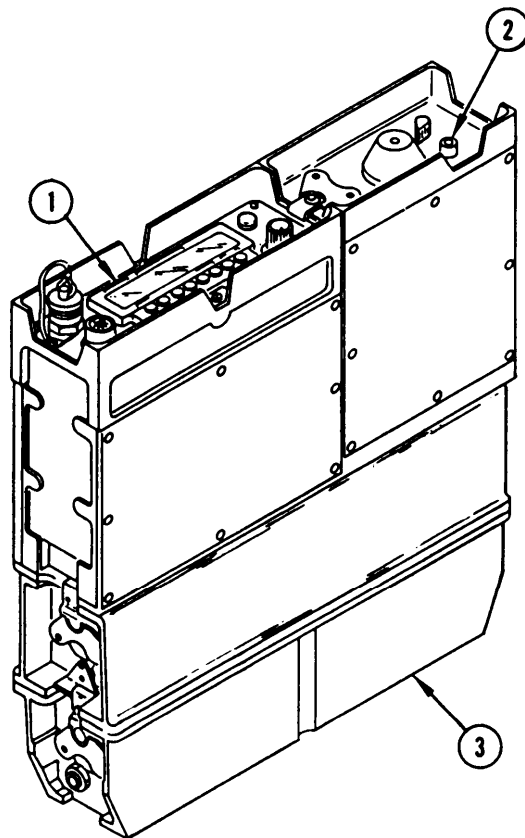

Figure 1-1. Location and Description of Major Components.
**LOCATION AND DESCRIPTION OF MAJOR COMPONENTS, fig 1-1**